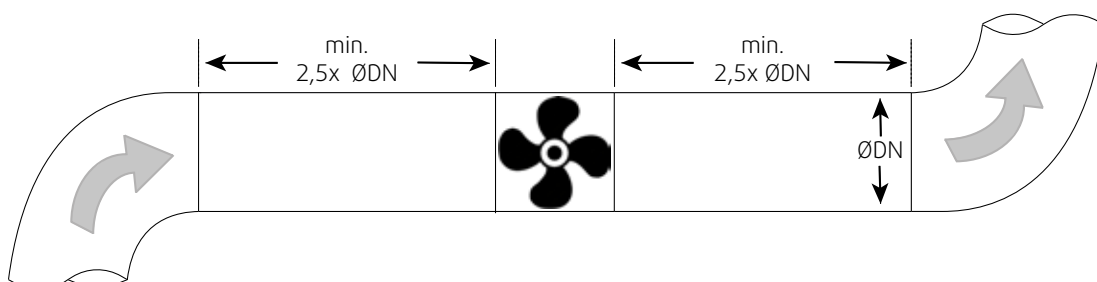

figure 9: Installation
- ☞ Directly before and after the fan you have to install straight ducts. Please pay attention to the following figure (fig. 9).